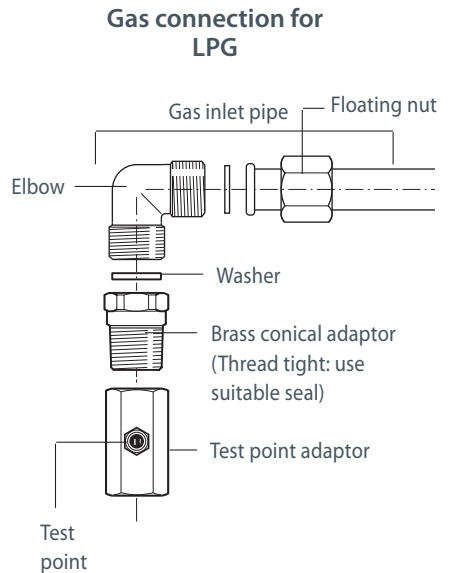

Fig. 7 LPG connection
- For LPG, connect the gas supply to the test point adaptor which is supplied with the appliance (Fig. 7). Ensure that the supply pressure is regulated to 2.75 kPa.